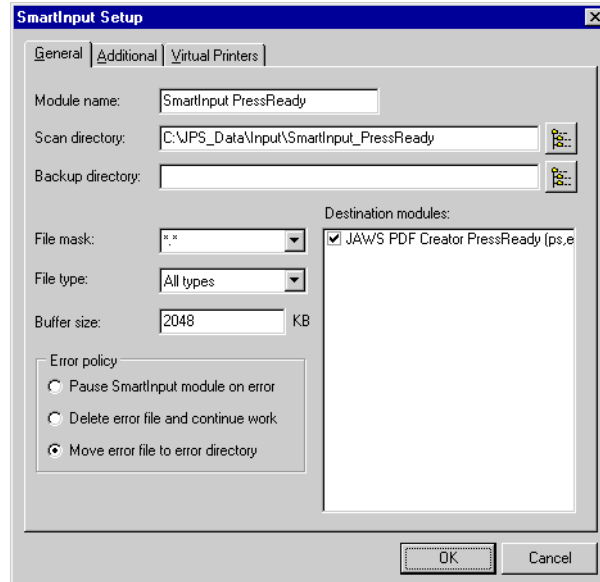

Figure 4.7 SmartInput Setup dialog box
- Using whichever method you choose, open the module's setup dialog box. Figure 4.7 shows the setup dialog box for the SmartInput module. Notice how the dialog box is organized into tabbed areas, making it is easy to locate a particular option.